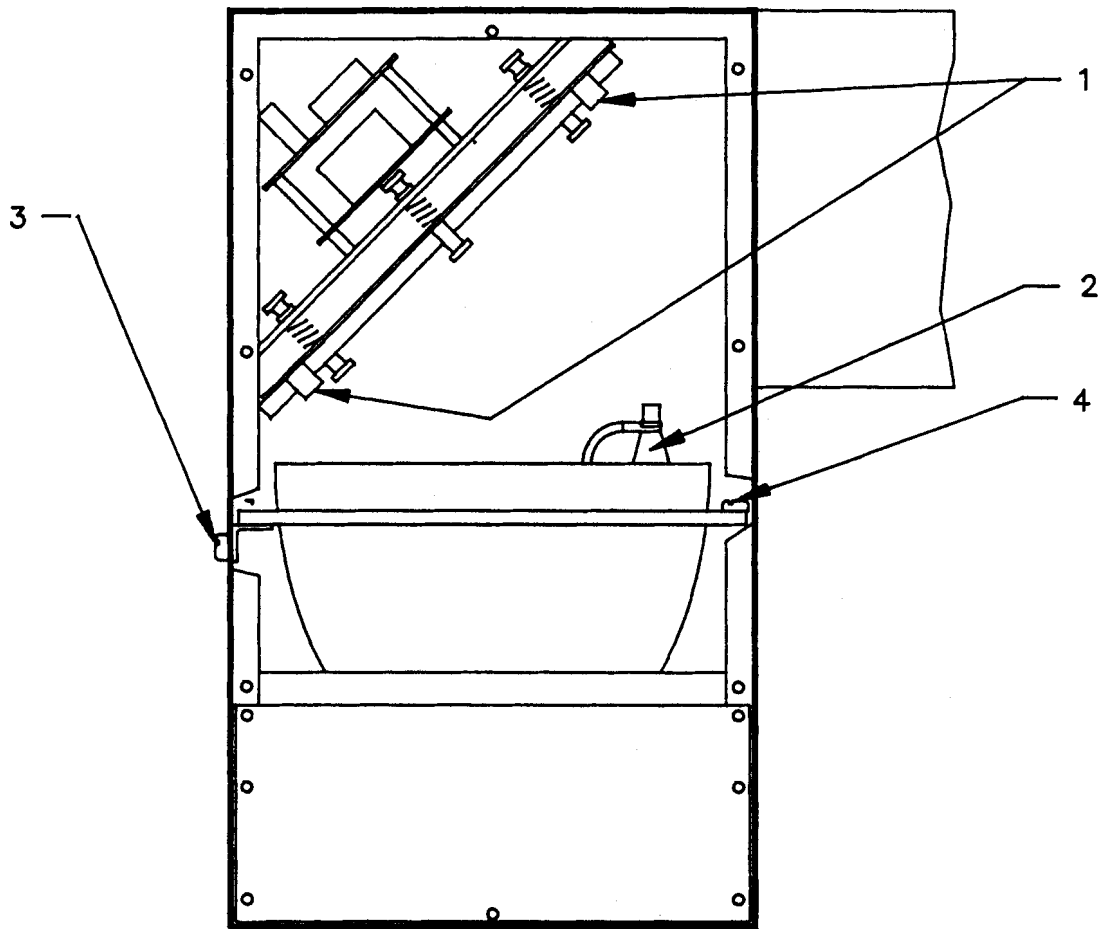

Fig.8 REPLACING THE PRIMARY FOLDING MIRROR AND ELLIPSOIDAL REFLECTOR
REPLACING THE ELLIPSOIDAL REFLECTOR ASSEMBLY (see figure 8)
6. Disconnect the high voltage cable and flying lead from the ceramic standoff located in the rear on the reflector mounting plate. (see (2) on figure 8)
7. Remove screws (3) inside the housing and (4) outside the housing
11. Insert the new ellipsoidal reflector assembly into the illuminator housing and fasten it with screws (3) and (4) see figure 8
REPLACING THE PRIMARY FOLDING MIRROR (see figure 8)